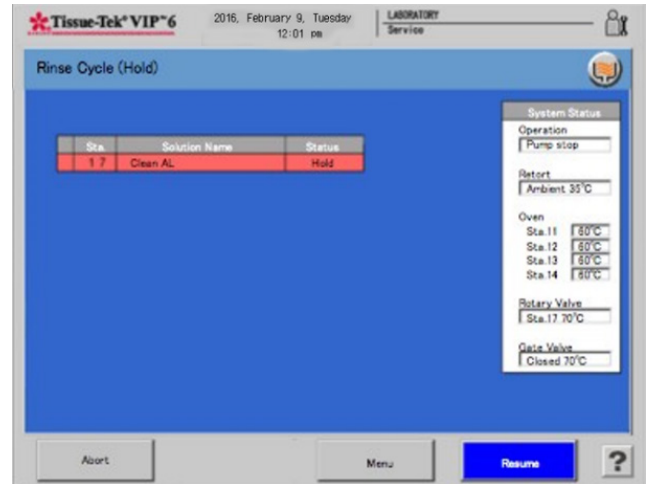

Figure 4-AA
- The Rinse Cycle Hold screen displays (Figure 4-AA).